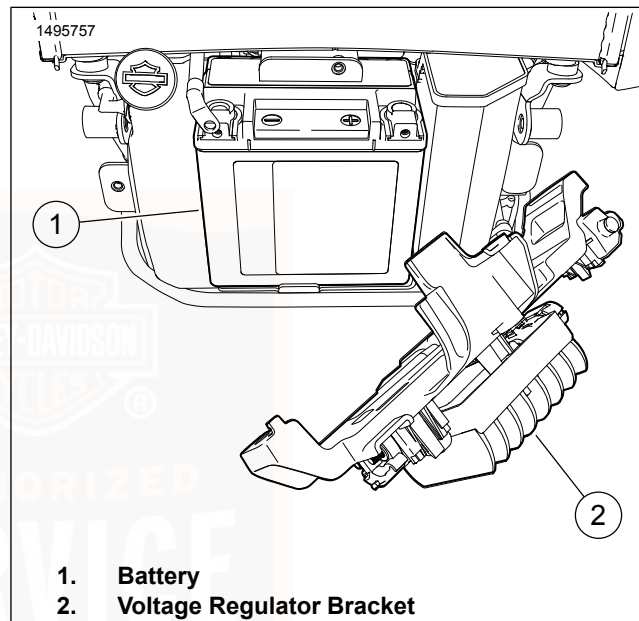

Figure 80. Voltage Regulator Bracket
6. See Figure 80. Position voltage regulator bracket (2) out of way.
7. Remove battery (1).